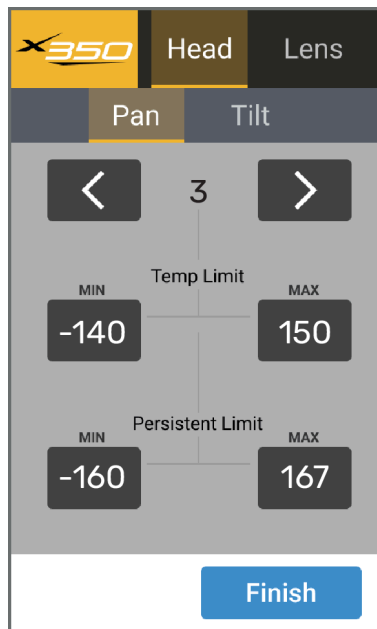

Figure 4.28 — Temp Limit Buttons
- **Movement arrows** — Press and hold an arrow to move the axis to the position you want to set as a limit (Figure 4.28).
- **Temp Limit buttons** — The **MIN** button toggles to set or clear (erase) the minimum temporary limit. The **MAX** button toggles to set or clear the maximum temporary limit. See Figure 4.28.